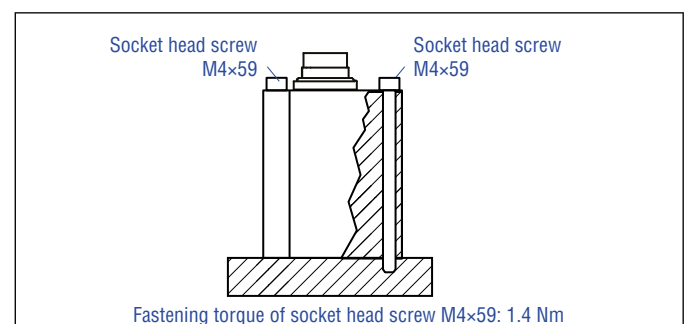

Fig. 21: Mounting with socket head screws M4×59
3. Mount the sensor electronics housing using the three M4×59 hexagon socket screws made of non-magnetic material. Tightening torque: 1.4 Nm (Fig. 21). Secure the screws before installation, e.g. with Loctite 243. Remove the three knurled nuts beforehand.
2. Mount the sensor electronics housing to the sensor rod or HFP profile using three M4×59 hexagon socket screws made of non-magnetic material: Tightening torque: 1.4 Nm (Fig. 21). Secure the screws before installation, e.g. with Loctite 243. Remove the three knurled nuts beforehand.
- Mount the sensor via flange using the three M4×59 hexagon socket screws made of non-magnetic material. Tightening torque: 1.4 Nm (Fig. 21). Remove the three knurled nuts beforehand.